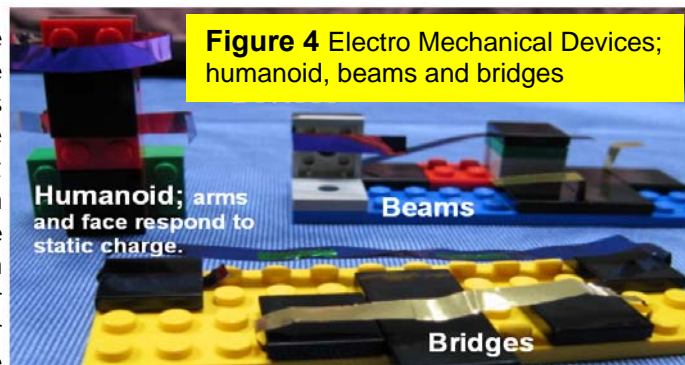

Figure 4 Electro Mechanical Devices; humanoid, beams and bridges
- Move the structures shown in Fig. 4 closer to the globe and see what happens.